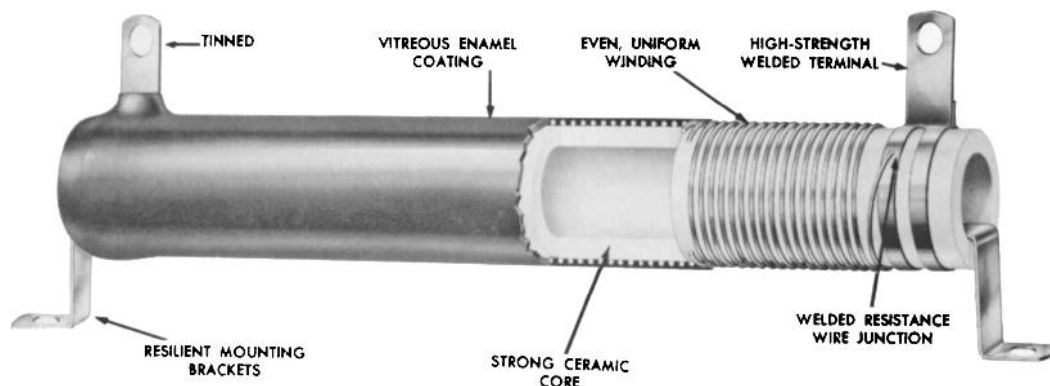

Fig. I-42 Wire-wound resistor.
- **Wire-wound resistors.** These resistors are used to provide sufficient opposition to current flow to dissipate power of 5 W or more. They are made of resistance wire (Fig. I-42). Variable wire-wound resistors are also available for use in circuits where voltage is changed at various times (Fig. I-43). Some variable resistors have the ability to be varied but also adjusted for a particular setting (Fig. I-44).